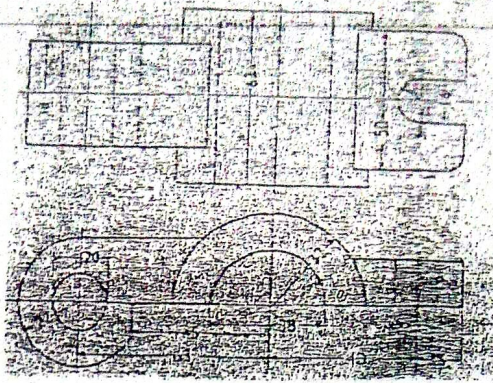

Figure P.1
- Orthographic views of an object are shown in Figure P.1. Draw its isometric view. [4]